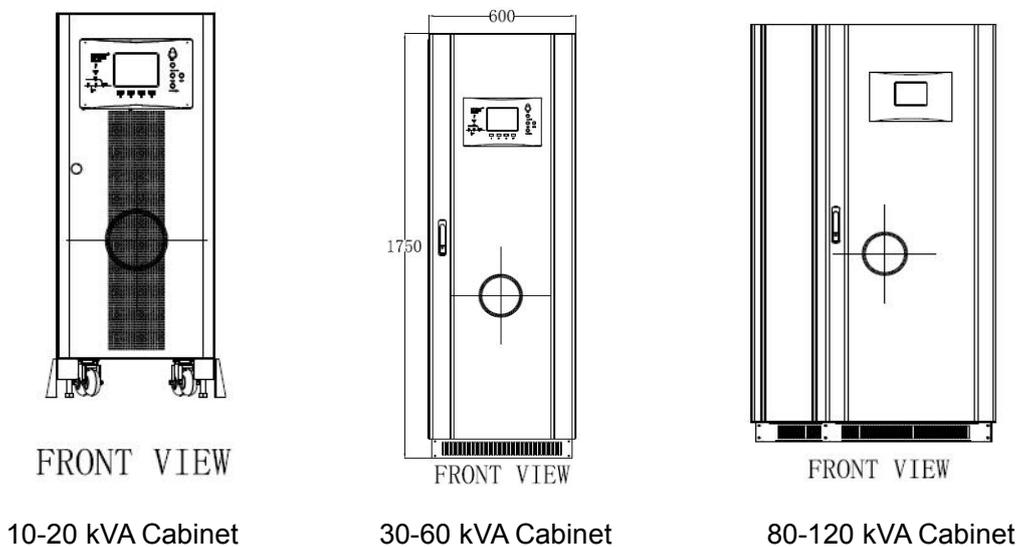

Figure 2-6 Diagram of the gravity center of the cabinet
- After lifting the plate on the bottom of the inverter and removing the fixing screws, if a forklift is used to lift, insert the forks of forklift into the gap between the pallet and the bottom of the cabinet (refer to the reference point of the cabinet's center of gravity, as Figure 2-6 shown).